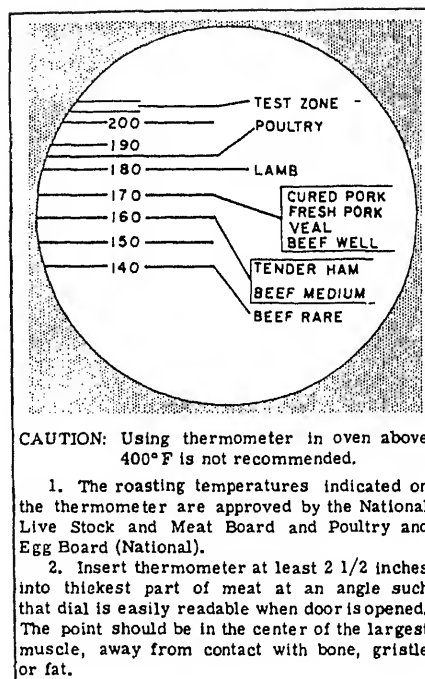

Figure 8-5.—Dial-type roast meat thermometer.
- Use a meat thermometer to tell when the roast is done. The meat thermometer is the only accurate measure of doneness. The length of cooking time depends on the temperature of the oven, the weight and shape of the roast, and the kind of meat. A dial-type meat thermometer is shown in figure 8-5.